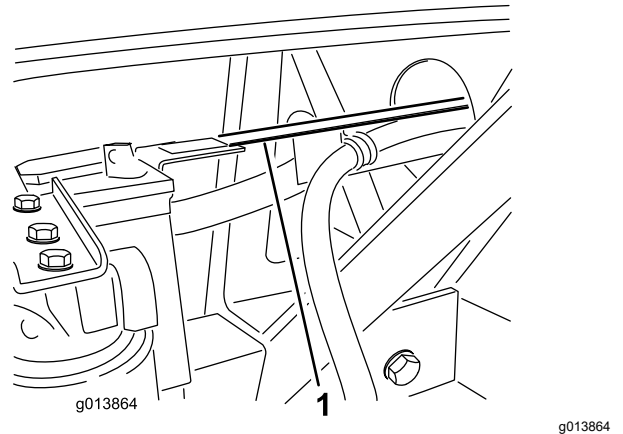

Figure 10
5. The hose guide should sit on top of the tab from the vertical leg of the battery tray (Figure 10). If the holes in the hose guide do not match the holes in the battery tray tab, the hose guide length may be adjusted by loosening the bolts attaching the hose guide to the hydraulic tank bracket and sliding the hose guide forward or to the rear as required.
6. Attach the hose guide to the battery tray tab using 2 bolts (1/4 x 3/4 inch) and flange locknuts (Figure 10).